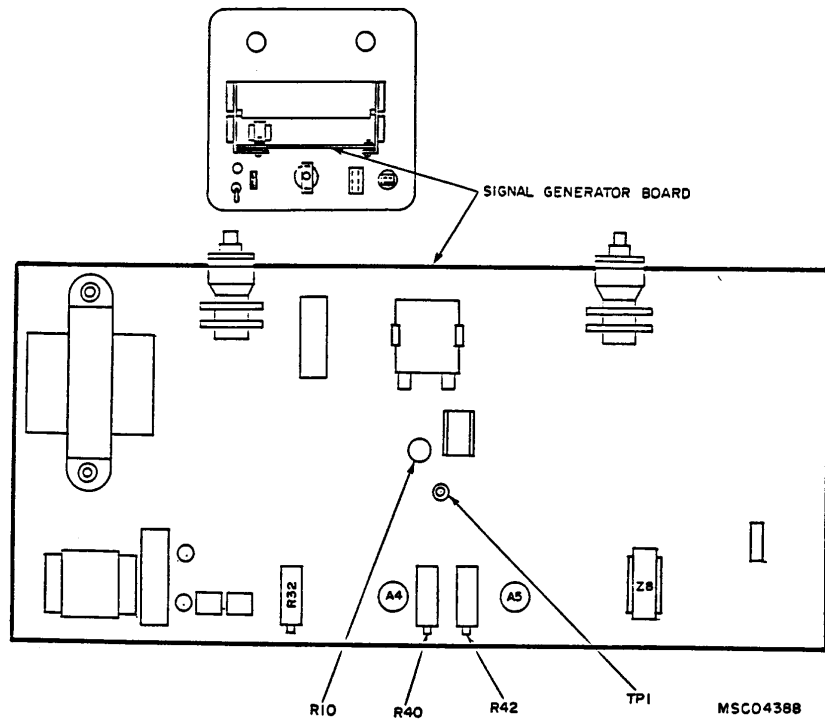

Figure 1. Test instrument - rear view.
- (1) Adjust R40 (fig. 1) for 16.400 mV dc indication on multimeter (R).
- (2) Adjust R42 (fig. 1) for 33.257 mV dc indication on multimeter (R).
- (3) Repeat **a (3)** and (4) and **b (1)** and (2) above, as necessary, for best in-tolerance compromise.
- (1) Connect frequency counter to TP1 (fig. 1).
- (2) Adjust R10 (fig. 1) for indication of 1 MHz on frequency counter.